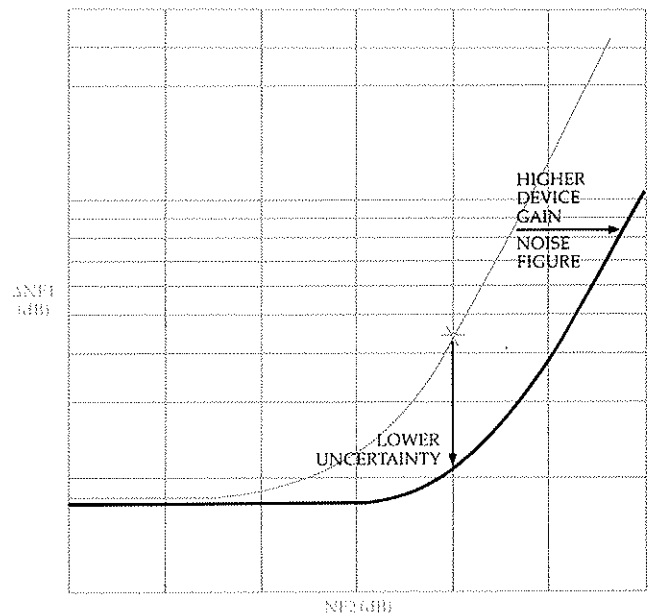

Figure 4.2 High gain or noise figure devices shift the curve to the right (lower uncertainty results).
**Device noise figure and gain:** Changing these factors shifts the curve left or right. Higher device gain and/or noise figure shifts the uncertainty curve to the right (see Figure 4.2). This means higher device gain (and/or noise figure) gives better measurement accuracy for a given NF2. In short, a device with high gain or high noise figure can be measured with greater accuracy than one with lower gain or noise figure.